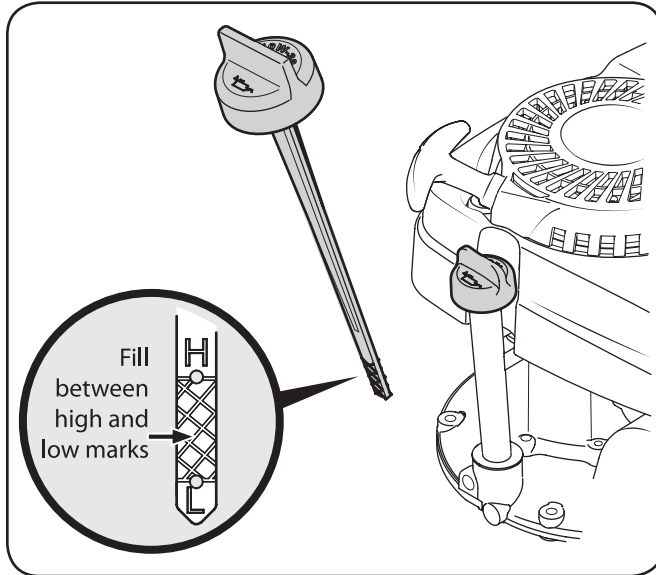

Figure 3-3
1. Remove the oil filler cap and wipe the dipstick clean. See Figure 3-3.
3. Remove dipstick. If the level is low, slowly add oil until oil level registers between high (H) and low (L). See Figure 3-3 inset.